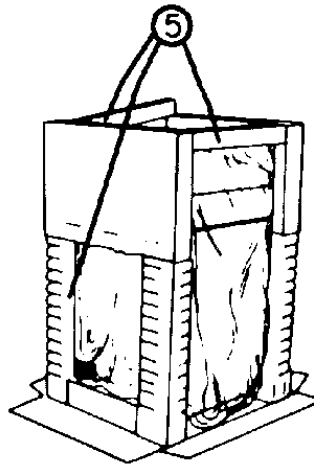

**FIGURE A-7
5. Remove all pieces of polystyrene foam except those under the printer. Refer to Figure A-7.